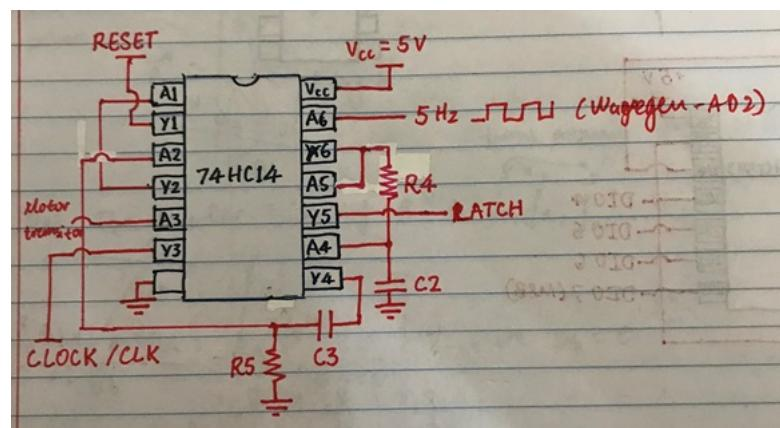

Figure 31: Updated inverter IC pinout (with counter clock signals from motor)
- I connected the output of the phototransistor transistor to the input of the remaining inverter left on the Schmitt-trigger inverter IC (seen in Figure 31) for the counter clock